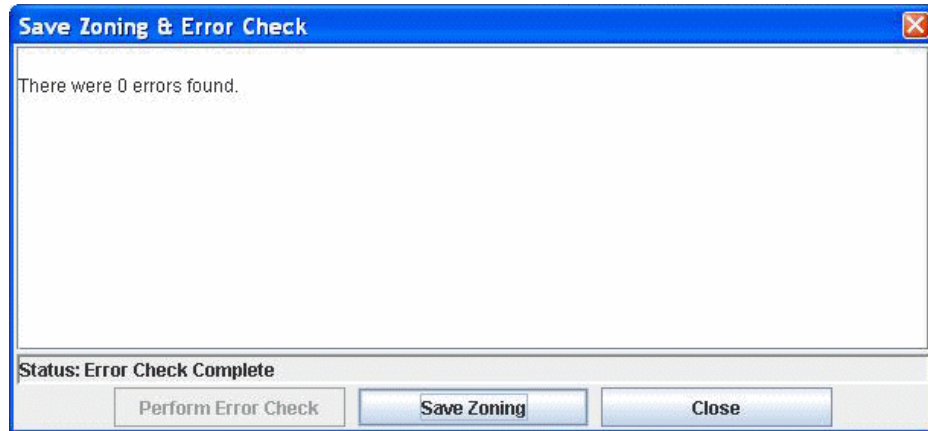
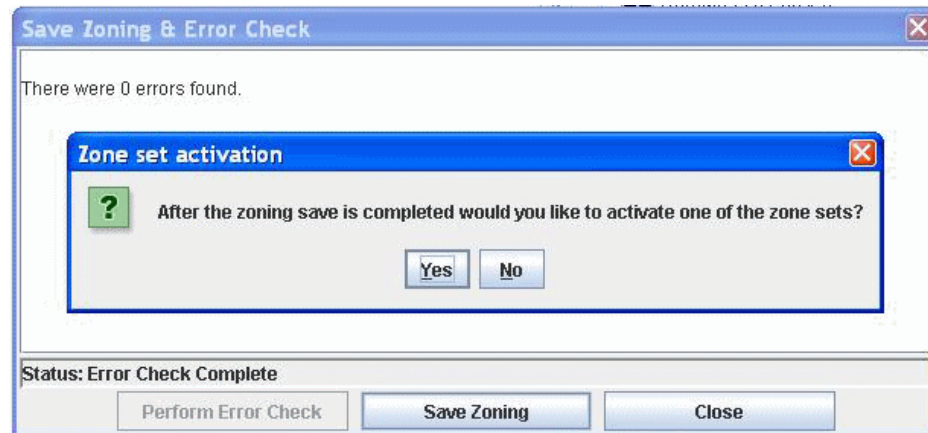

Figure 9-26 Perform error check and save zoning
Figure 9-27 Zone set activation window
12. Members were added to the zone. Click **Apply** to apply zoning changes. You will see a window similar to Figure 9-26.
13. From the Save Zoning and Error Check dialog box (Figure 9-26), select **Perform Error Check**. Once the Error Check is complete and no errors appeared, select **Save Zoning**. You will see a window similar to Figure 9-27.